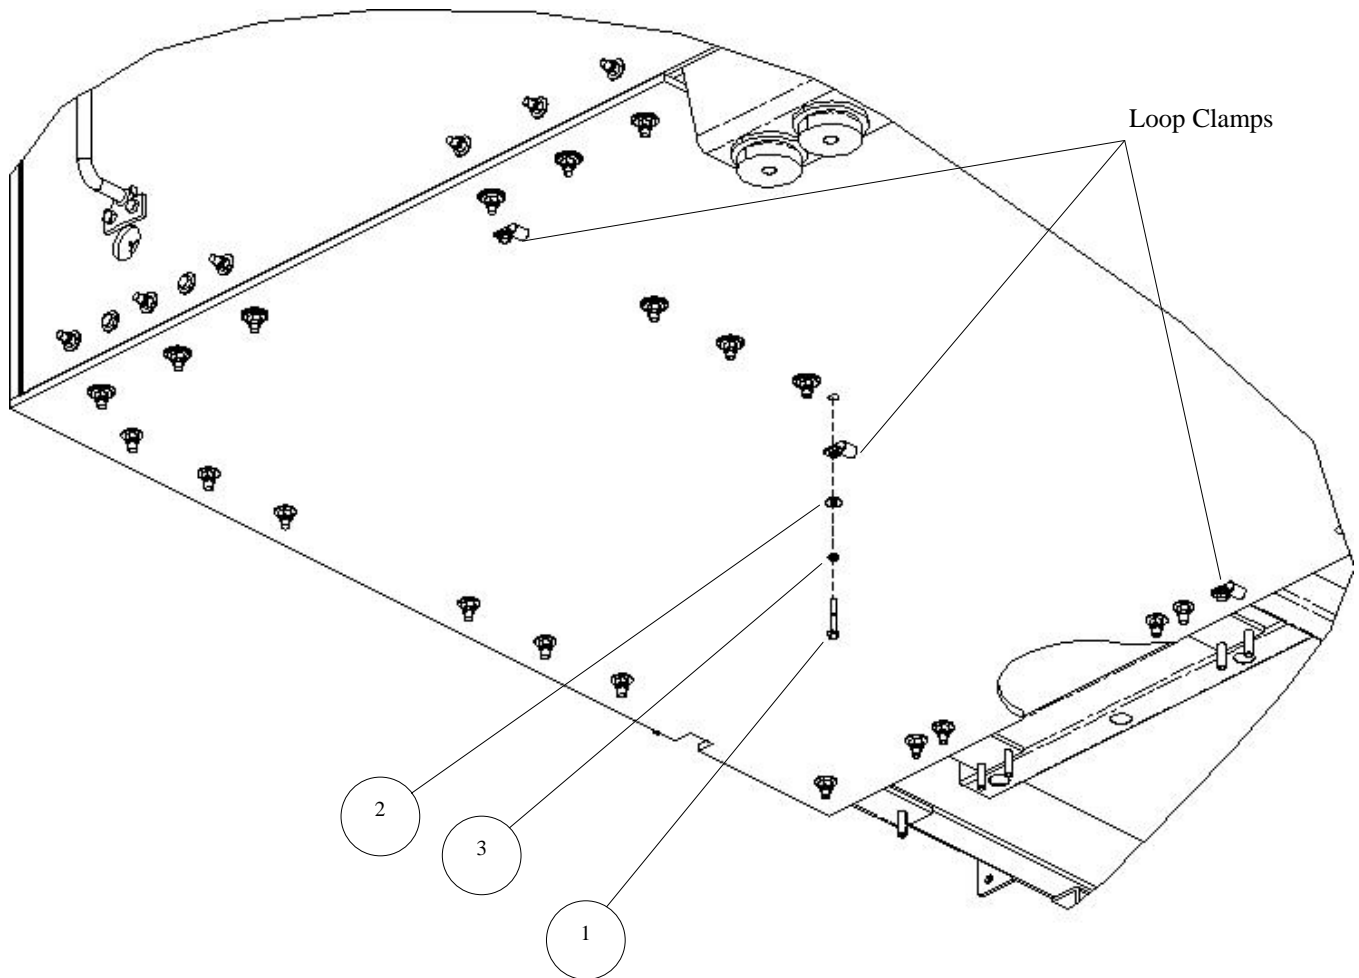

Figure 3-37. Loop Clamp Re-installation.
6. Re-install three loop clamps as follows (see Figure 3-37):
- a. Reinstall three loop clamps (removed in Teardown, Chapter 2) and secure each with one bolt (1), flat washers (2), and lock washers (3).